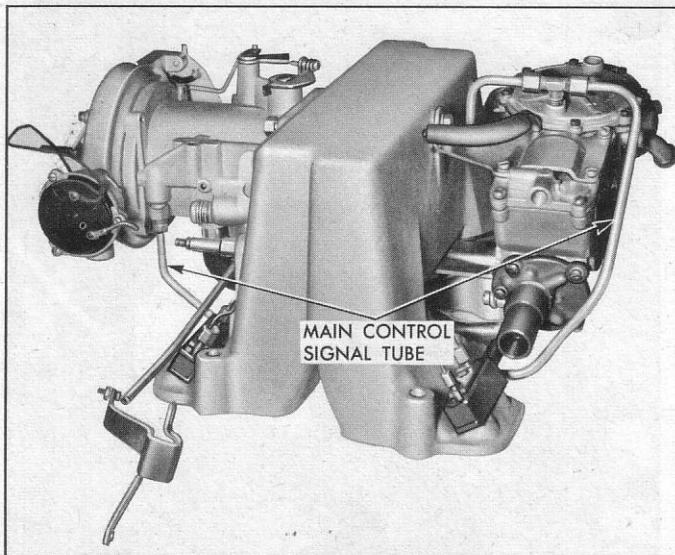

Fig. 31—Disconnecting Main Control Signal Tube
4. Disconnect main control signal tube at both ends, lower it out of the way (fig. 31).